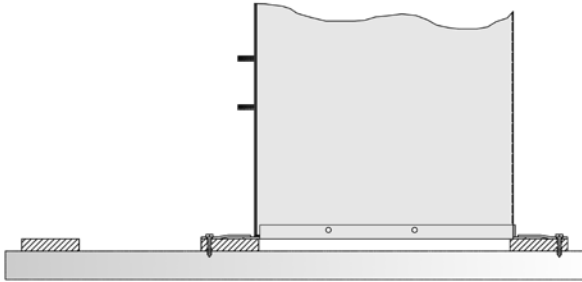

Figure 3: Base on Skid
1. Remove, all boiler to skid, hold down fasteners. Refer to Figure 3.